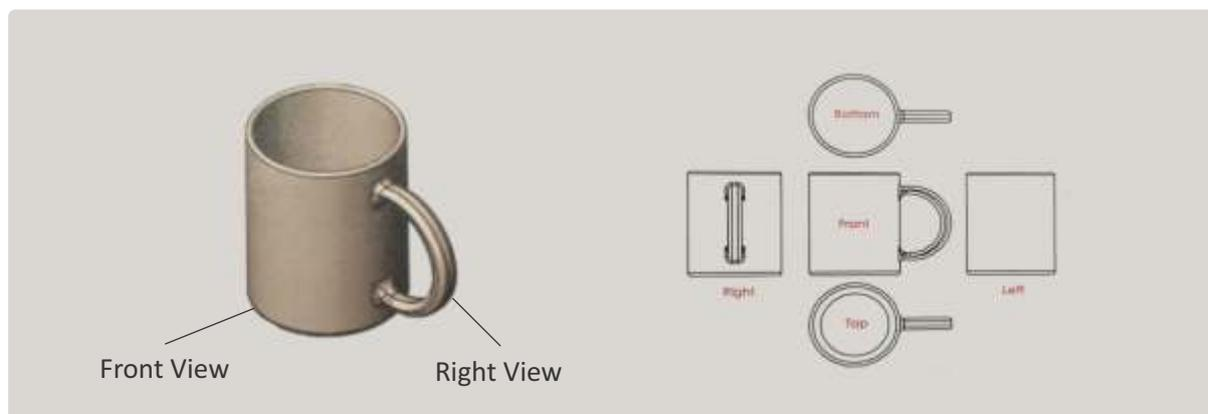

Fig 3.1.1 Engineering drawing
- Refer to fig 3.1.1 in the PH and draw an analogy with the drawing of a cup